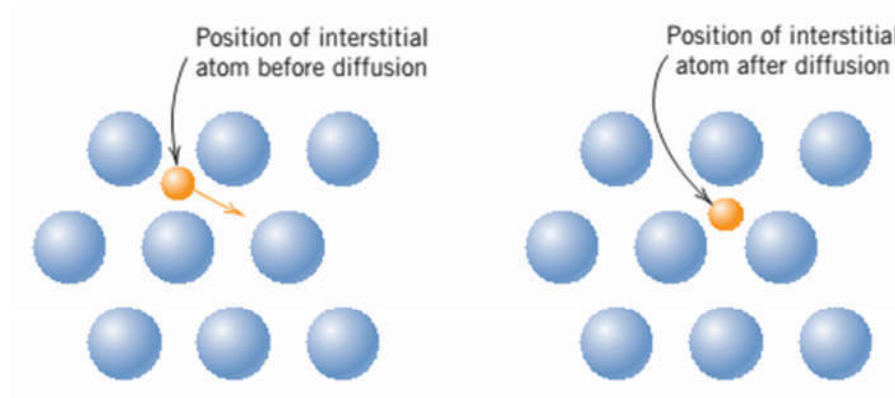

Figure 3. Mechanism of interstitial diffusion
2) Mechanism of interstitial diffusion: involves atoms that move from an interstitial position to a neighboring one, as represented in **Fig. 3**.